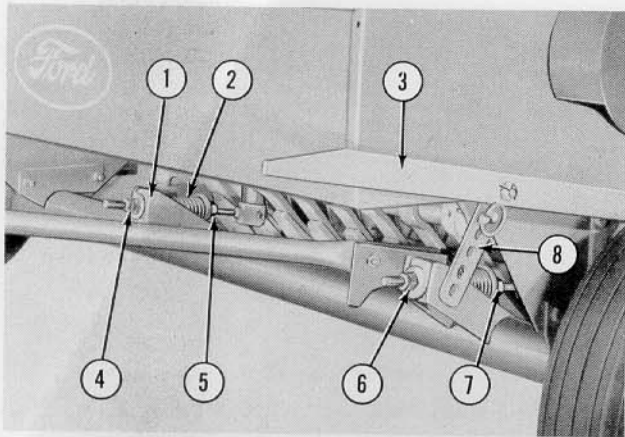

Figure 7
1. Lower the pick-up assembly and secure the lever in the next to the last hole for average operating conditions. See (8), Figure 7.
Pick-up Lift Lever: The pick-up lift lever (3), Figure 7, is used to vary the working height of the pick-up teeth. The pick-up may be set at the desired height by relocating the lever in the latch (8) and securing with the linch pin provided. The pick-up teeth should work below the top of the stubble without striking the ground.
Pickup Counterbalance Springs. The tension on the pick-up counterbalance springs (see 2, Figure 7), should be adjusted so that the pick-up will float with approximately 15 pounds weight at the hay hold-down
pipe when the pick-up lift lever (3) is set in the lowest hole in the latch (8), Figure 7. This tension may be varied, as desired, according to local crop conditions.
To adjust the stops, raise the pick-up to transport position with the lift lever (3), Figure 7, and secure the lever in the top hole of the latch (8) with the linch pin provided. Tighten the pick-up adjusting stops (4) and (6) until they are against the counterbalance spring brackets (1). This setting will provide adequate clearance between the pick-up assembly and the sweep fork when the pick-up is raised.